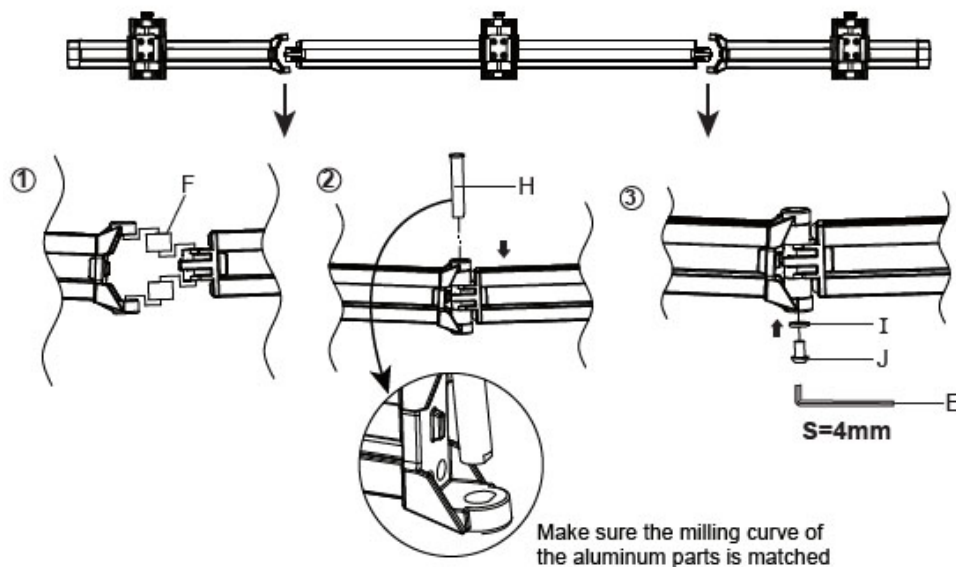

Figure 2A
1. Install **Left** and **Right Extension Arm** to the **Arm Assembly** using **Spacer (F)**, **Sleeve (H)**, **Washer (I)** and **6x15 Bolt (J)** and tighten them with **4mm Allen Key (E)**, see **Figure 2A**.